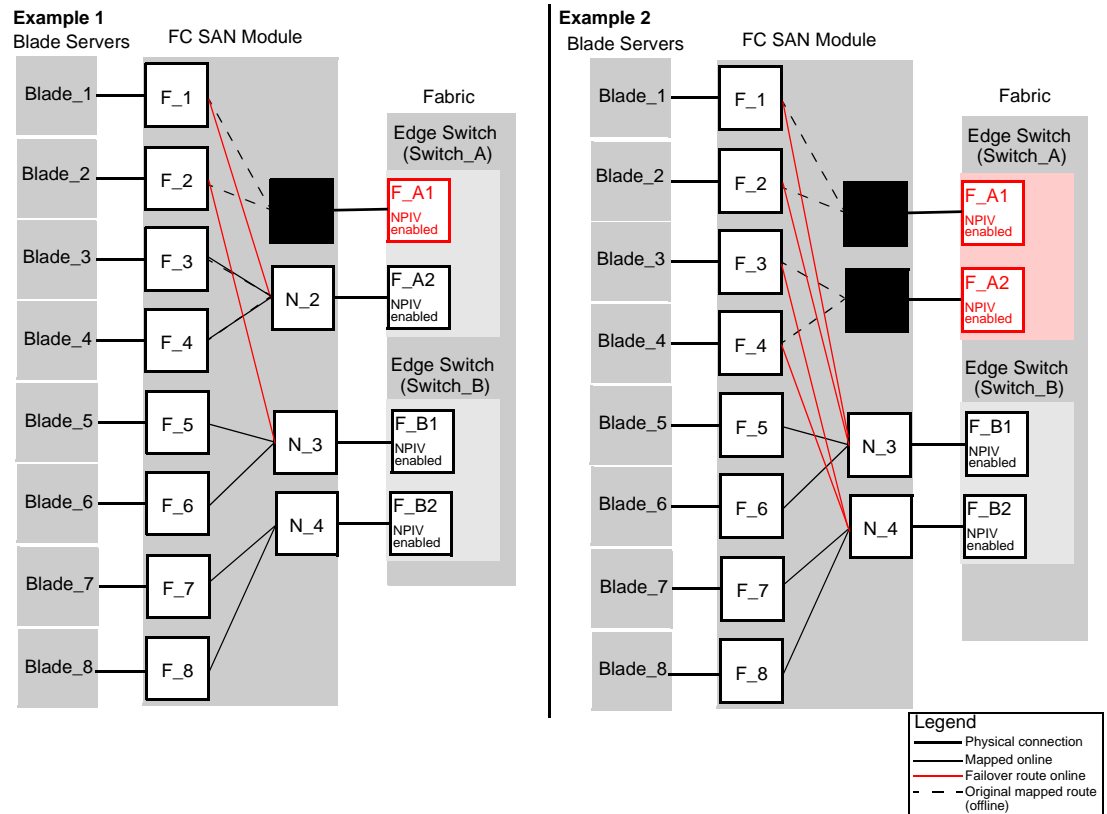
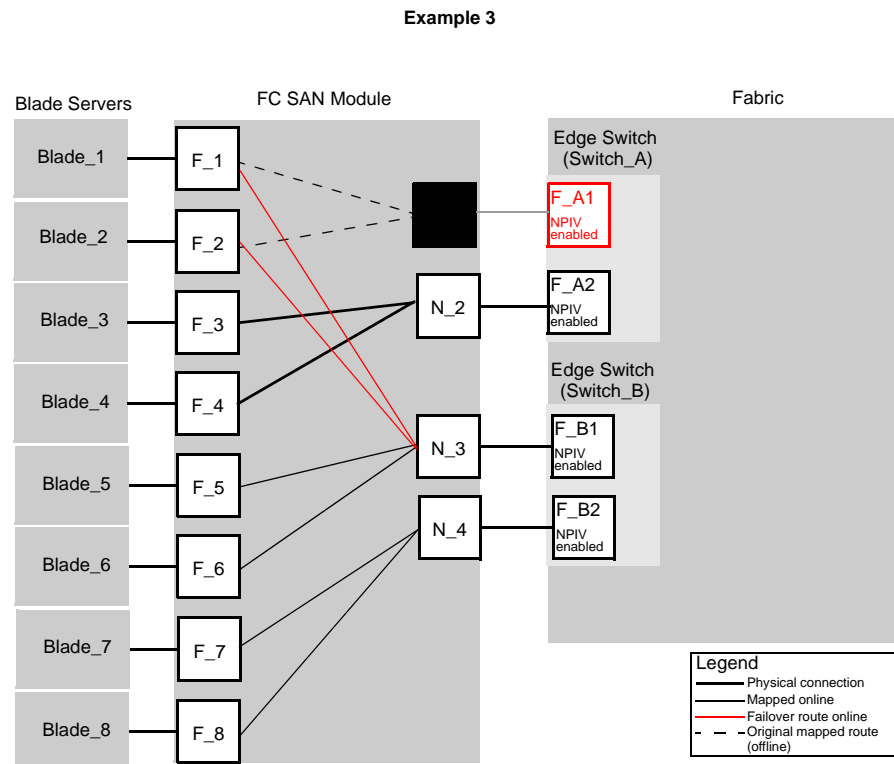

FIGURE 5 Example 1 and 2 Failover behavior
FIGURE 6 Failback behavior
- First the Edge switch F_A1 port goes offline, as shown in Figure 5 on page 20 Example 1 (left), causing the corresponding N_1 port to be disabled.
- Next the F_A2 port goes offline, as shown in Figure 5 on page 20 Example 2 (right), causing the corresponding N_2 port to be disabled.
In Example 3, described in Figure 6 on page 23, N_1 remains disabled because the corresponding F_A1 port is offline. However, N_2 comes back online. See Figure 5 on page 20 for the original fail over scenario.